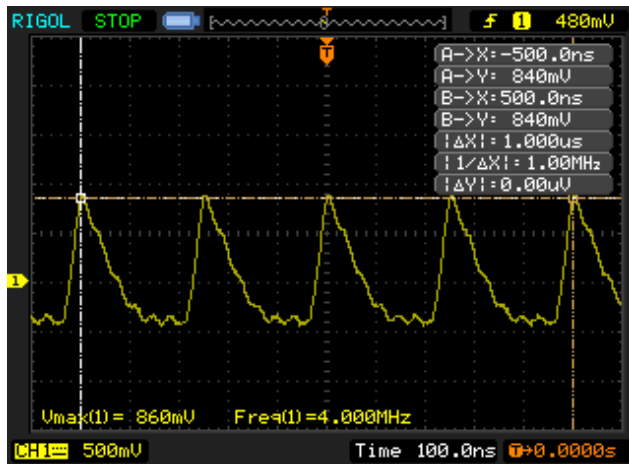

Figure 4
- Use the  $4\ \text{MHz}$  quartz crystal first and reproduce a oscilloscope trace similar to Figure 4